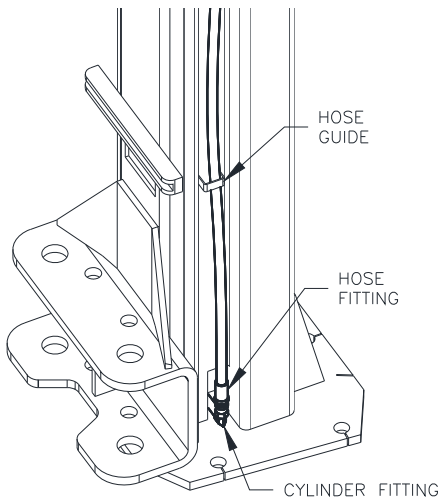

Fig 14 – Bottom Hose Connection
- 30) Attach Power Hose to Cylinder Fitting at the bottom of the Power Column as shown in **Fig 14** below. Repeat with longer Idler Hose and Idler Column. If lift is installed in the “Tall Height” setting, use Hose Extension and Hose Extension Fitting between Idler Hose and Cylinder Fitting.